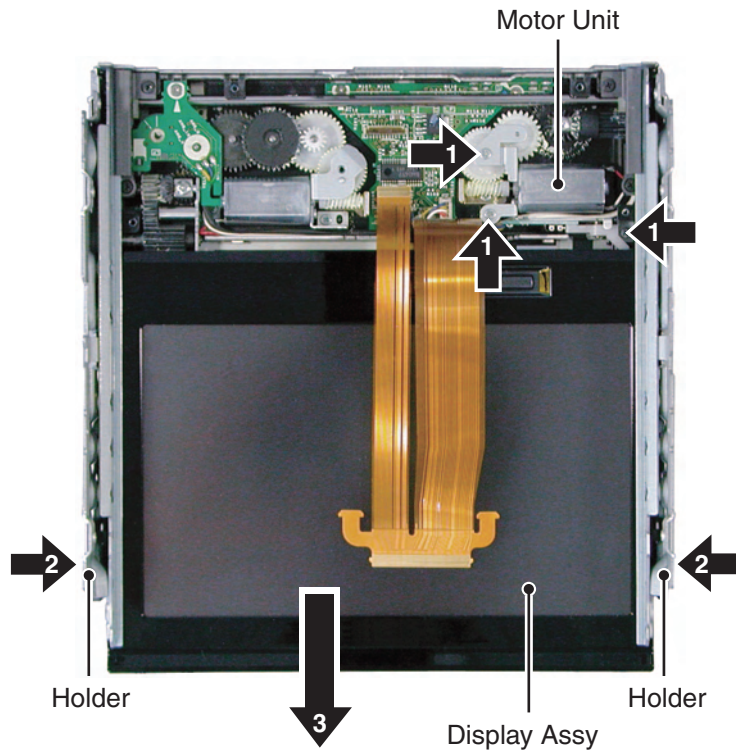

Fig.6
- 1** Remove the three screws.(Fig.6)
- 2** Remove the two screws and then remove the two Holders.(Fig.6)
- 3** Pull out the Display Assy in the arrow indicated direction.(Fig.6)